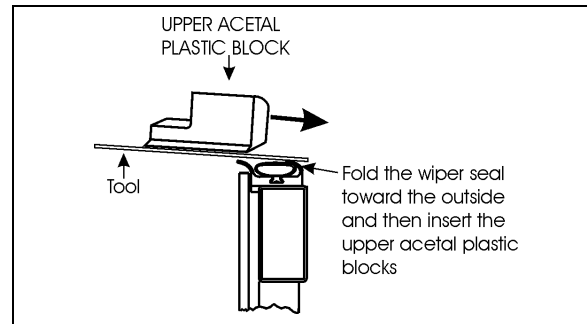

FIGURE 32: LOWER ACETAL PLASTIC BLOCK INSERTION
- Reinstalling the upper acetal plastic blocks. Fold the wiper seal toward the outside with a flat tool to ease installation (Figure 32) and tighten the mounting screws. Leave no gap between the blocks and the rail.